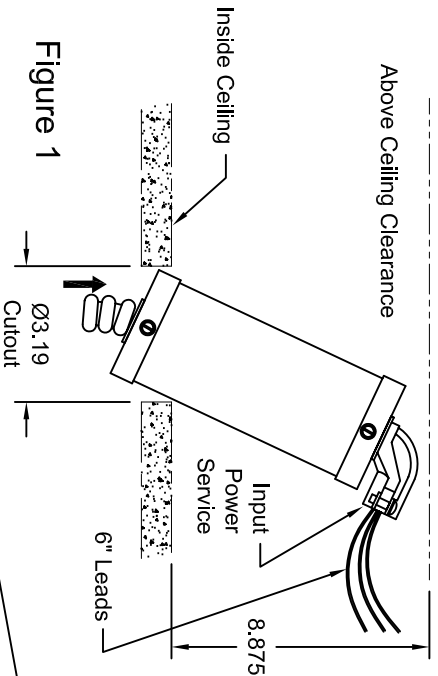
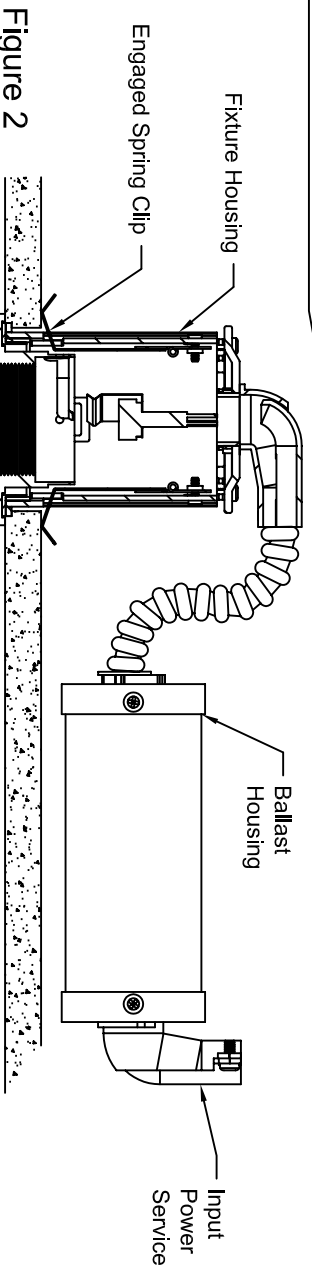

Figure 1
Figure 2
1. Check for Above Ceiling Clearance of 8,875. See Fig. 1.
2. Make Ø3.19 Cutout in Ceiling. See Fig. 1.
2. Connect electrical wires from Ballast Housing to Existing Electrical Service. See Fig. 1.
3. Insert Ballast Housing through Cutout in Ceiling. See Fig. 1.
4. Rotate Ballast Housing 90° and, with it resting on Inside of Ceiling, push to side to clear Cutout in Ceiling. See Fig. 1 & Fig. 2.
1. Place Fixture Housing into Ceiling Cutout being sure that the two (2) Spring Clips are Disengaged. See Fig. 2 & Fig. 3.
2. Holding Fixture Housing firmly in place, push Spring Clips outward to Engage. See Fig. 2 & Fig. 3.
3. Install Trim into Fixture Housing until it Seats against the Ceiling. See Fig. 2 & Fig. 4.